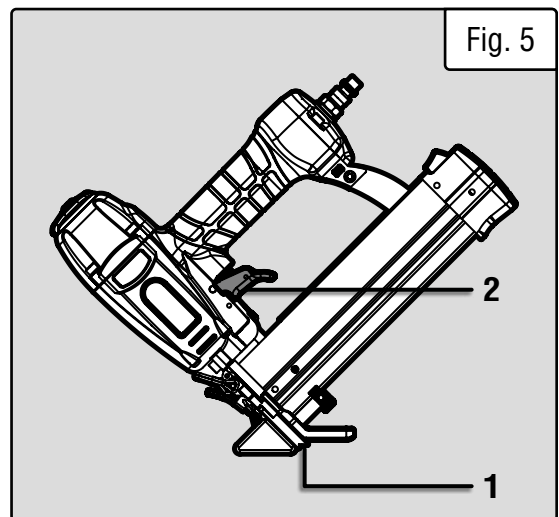

Fig. 5
2. Hold the nailer and press the drive guide (Fig. 5 - 1) flush against the work surface, making sure that the tool is straight. Gently press the trigger (Fig. 5 - 2) to drive the fastener.